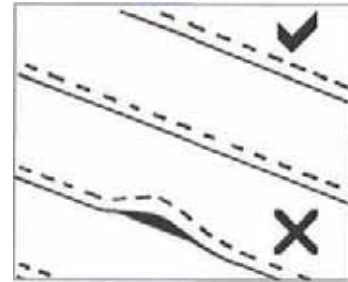

Figure 1
1. Mechanical fastening method - To prevent the membrane from moving and gaps opening, the laps should be fastened together at 1.0 m (39 in.) maximum centers. Fix through the center of the lap area using 12 mm (0.5 in.) long washer-head, self-tapping, galvanized screws (or similar) and allowing the head of the screw to bed into the adhesive compound to self-seal. It is not necessary to fix the membrane to the substrate, only to itself. Ensure the membrane lays flat and no openings occur. (See Figure 1.) Additional fastening may be required at corners, details, etc. Continuity is achieved once the slab is poured and the bond to concrete develops.